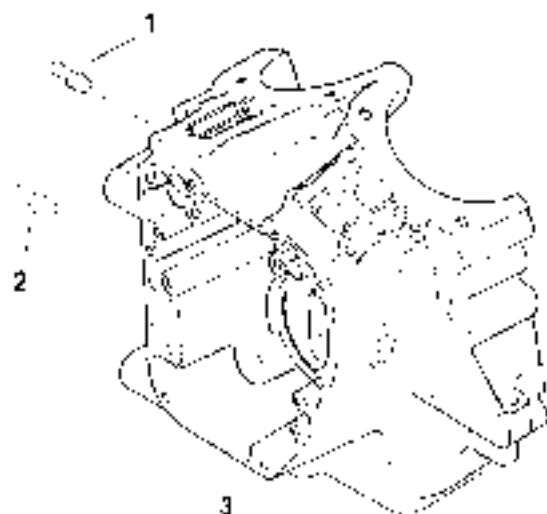

Figure 3-162 Oil Fittings and Pipe Plugs
1. See Figure 3-162. Turn hex on oil fittings (1, 2) in a counterclockwise direction until free.
2. Turn pipe plug (3) counterclockwise until free.